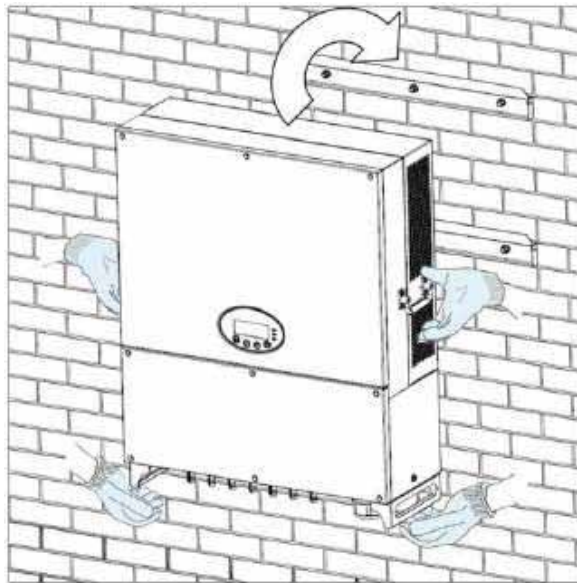

Figure 4.11 Installation of inverter
- (5) Hang the inverter onto the installation bracket and ensure the installation is firm enough. As shown in Figure 4.11.